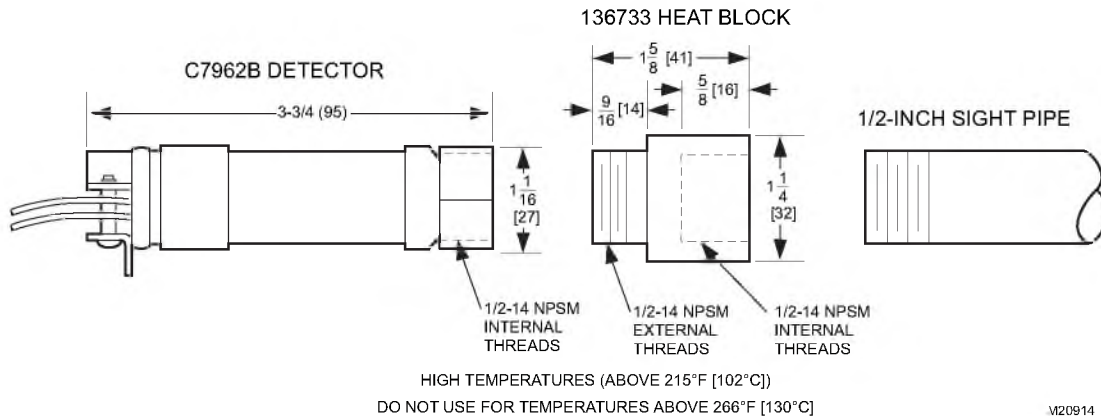

Fig. 4. Mounting dimensions of 136733 Heat Block in in. (mm).
**Using a Heat Block with a C7962B (Fig. 4)**